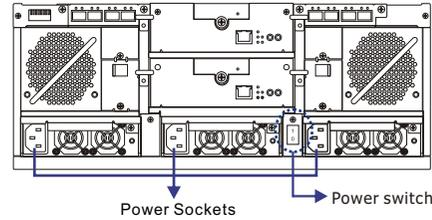

Figure 5: Locations of Power Switch and Power Sockets
- 👉 **Step 5.** Power on the A24F-R2224-1 subsystem by turning on the power switch on the subsystem's rear panel. For the location of the power switch, please see **Figure 5**. The subsystem may take more than one minute for self test and system initialization.
- Step 1.** Connect the three (3) provided power cords to the power sockets on the back of the system. (See **Figure 5**)